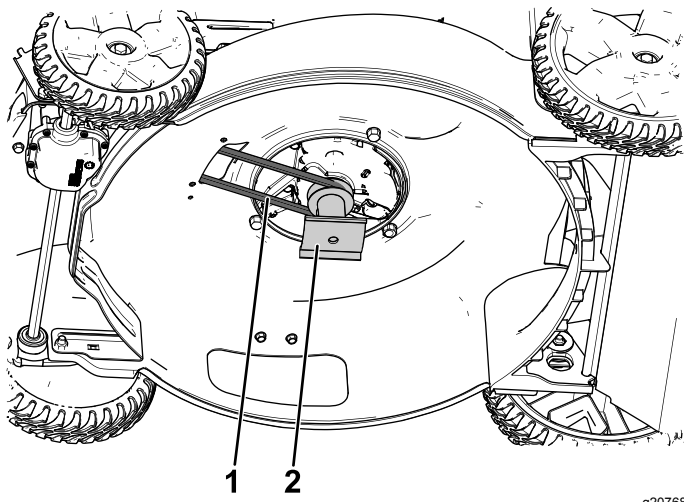

Figure 2
6. Remove the belt from the blade drive and then remove and retain the blade drive (Figure 2).